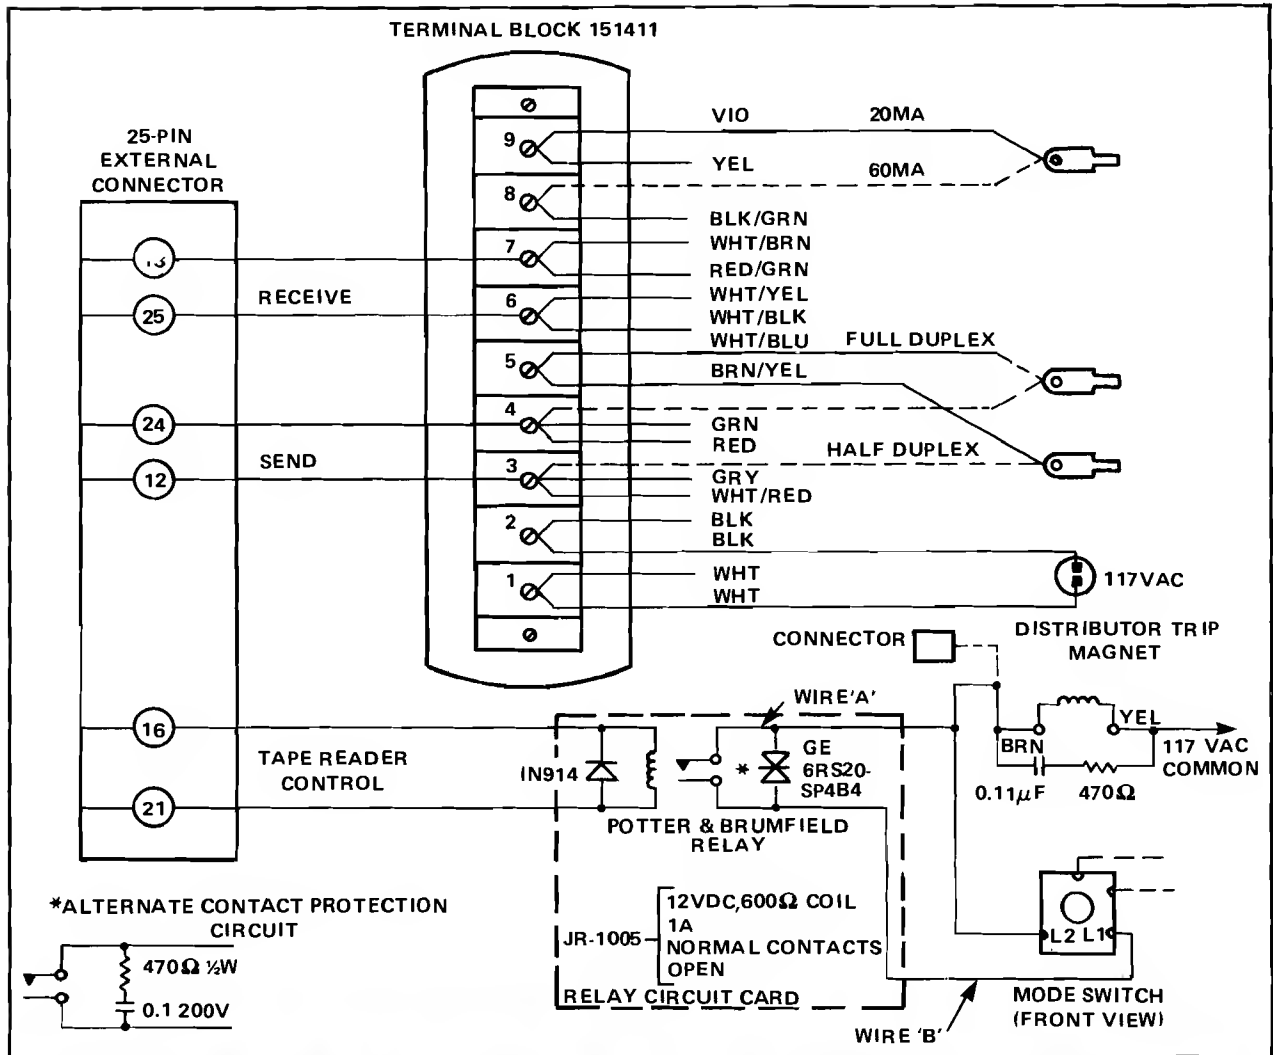
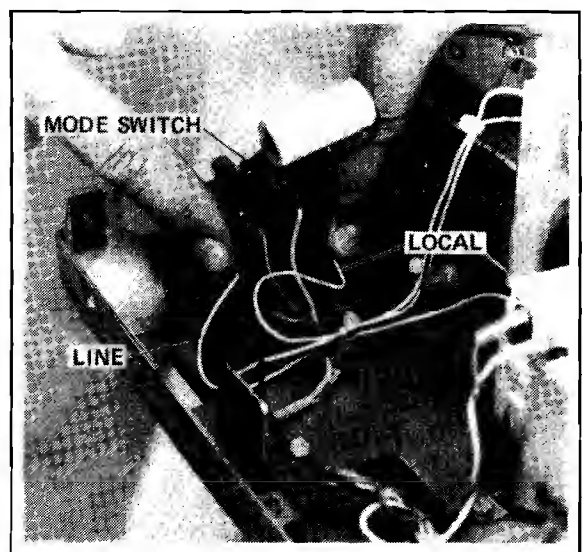

Figure B-4. Teletypewriter Modifications
Figure B-6. Mode Switch
A circuit diagram of the relay circuit card is included in figure B-4; this diagram also includes the part numbers of the relay, diode, and thyrector. (Note
- a. Refer to figure B-4 and connect a wire (Wire 'A') from relay circuit card to terminal L2 on mode switch. (See figure B-6.)
- c. Refer to figure B-4 and connect a wire (Wire 'B') from relay circuit board to terminal L1 on mode switch.
Connect a two-wire receive loop, a two-wire send loop, and a two-wire tape reader control loop to the external device as shown in figure B-4. The external connector pin numbers shown in figure B-4 are for interface with an RS232C device.